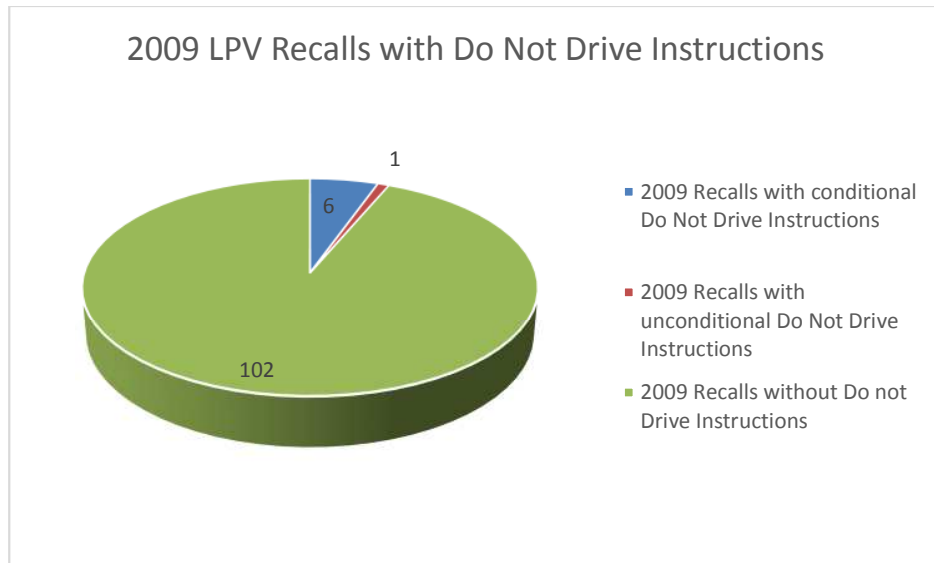

Figure 5. 2009 LPV Recalls with Do Not Drive Instructions
Seven (7) of the one hundred nine (109) 2009 LPV recalls contained DND instructions. Six (6) of those DND instructions were conditional upon owner detection of a defect. Only one recall (09V155) had an unconditional “do not drive” vehicle recommendation. In the graph in figure 5 this single recall is counted and categorized as a recall with “unconditional” DND instructions. For the text detailing the DND instructions for the 2009 LPV recalls see Appendix A-5.